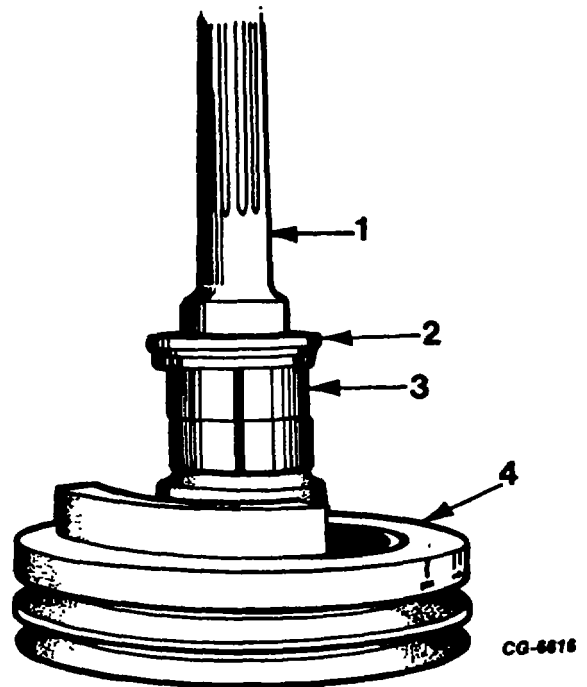

Figure 141. Installing Front Oil Seal Wear Sleeve
- b. Heat wear sleeve in boiling water and position on pulley hub. Using handle and 7.3 cm (2-7/8 inch) diameter adapter from SE-1905 tool set, press wear sleeve onto pulley hub until flush with end of hub (Figure 141).